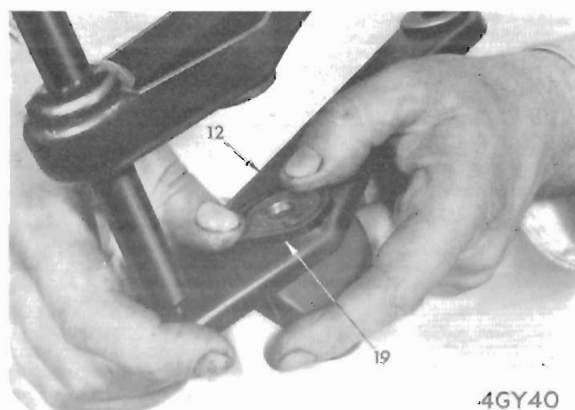

Fig. 59. Fitting new sealing rings to vertical link
6. Remove the nylon bushes (30), press in new ones, insert the steel sleeve (29) into the bushes (30), and fit new rubber sealing rings (19) to the vertical link assembly, Fig. 59.